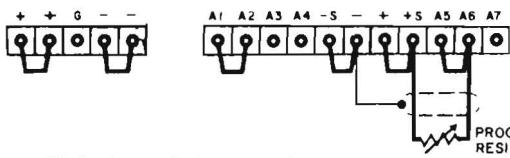

FIGURE 3-4. REMOTE RESISTANCE
- 3-18. GENERAL. The constant voltage and constant current outputs may be programmed (controlled) from a remote location. The front-panel controls are disabled in the following instructions. Changes in the rear terminal strapping arrangement are necessary. The wires connecting the programming terminals of the power supply to the remote programming device should be twisted or shielded to reduce noise pick-up. (if shield is used, connect one end to power supply ground terminal and leave the other end unconnected.) Remote sensing (para. 3-14) may be used simultaneously with remote programming. However, the strapping patterns shown in figures 3-4, 3-5, and 3-6 employ only local sensing and do not show the load connections.
3-21. If the resistance programming device is controlled by a switch, make-before-break contacts should be used in order to avoid momentary opening of the programming terminals. To connect the remote programming resistance, arrange rear terminal strapping pattern as shown in figure 3-4. The front-panel VOLTAGE controls are disabled when the strap between A6 and A7 is removed.
3-36. The strapping patterns for auto-tracking operation of two and three power supplies are shown in figures 3-11A and B, respectively. Automatic tracking operation permits the output voltages of two or more power supplies to be referenced to a common buss; one of the power supplies (master) controls the magnitude of the output voltage of the others (slaves) for a given position of the slave output voltage controls. The master must be the most negative power supply in the group. The output voltage of a slave is a percentage of the master output voltage. The output voltage controls of a slave determines this percentage. Turn-on and turn-off of the power supplies is controlled by the master. Remote sensing (para. 3-14) and programming (para. 3-17) can be used; however, the strapping patterns shown in figure 3-4 employ only local sensing and programming.